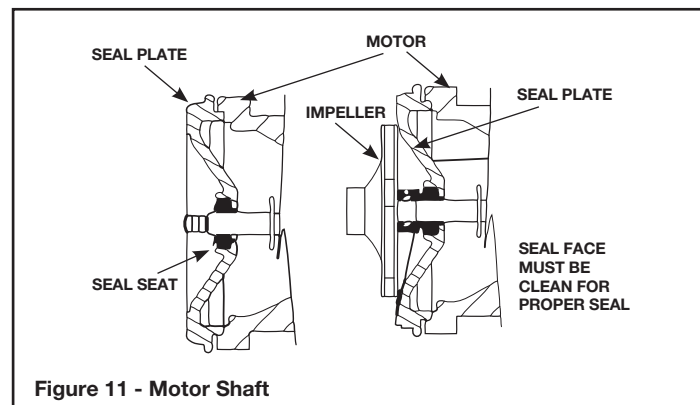

Figure 11 - Motor Shaft
4. Position impeller on shaft and tighten securely (Figure 11).